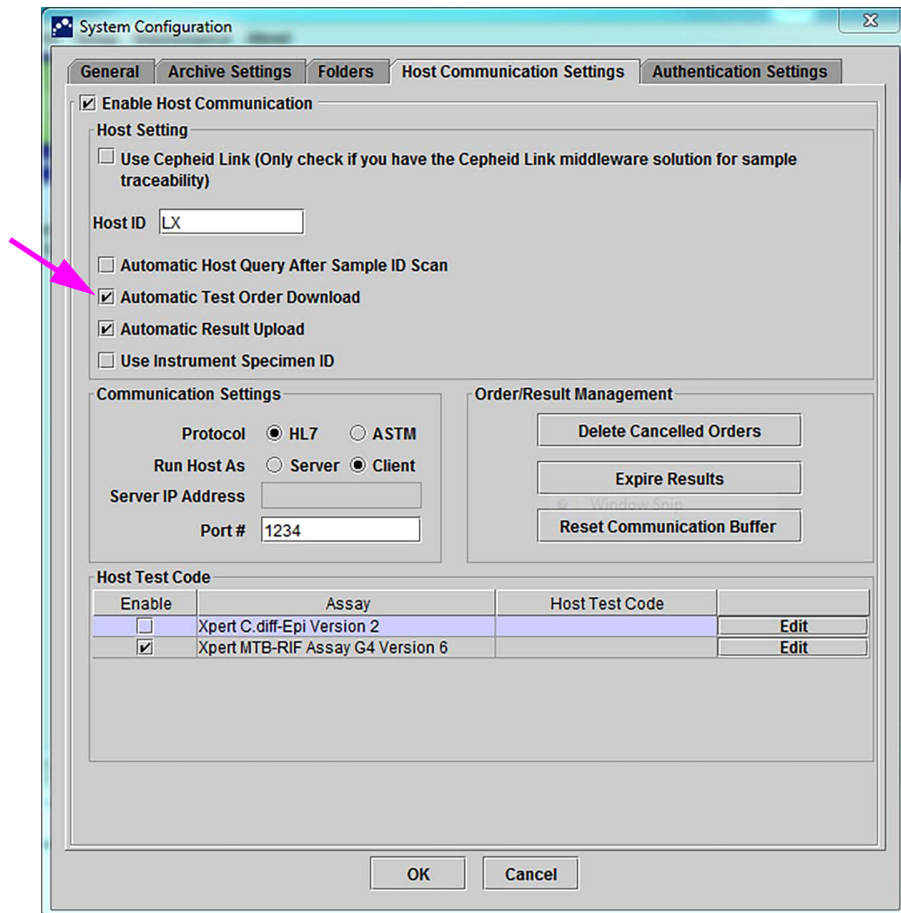

Figure 5-88. Automatic Test Order Download Selected
1. In the **Host Communication Settings** tab of the System Configuration dialog, click on the **Automatic Test Order Download** check box to select and enable this function. See Figure 5-88.